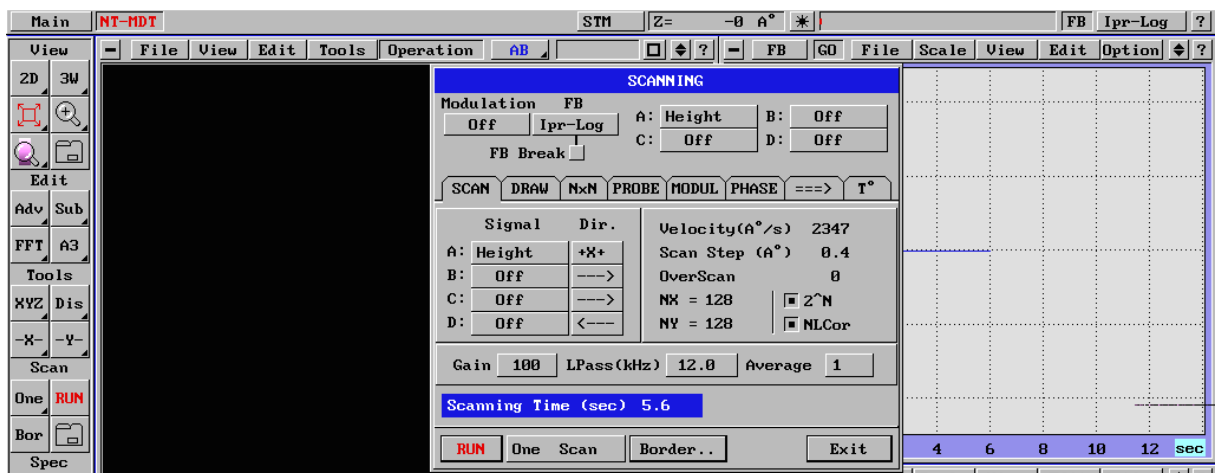

Fig. 65
- Velocity = max (Fig. 65)
- Step (A) - 0.2 - 0.5 (Fig. 65)
- NX xNY - 128 x 128 (Fig. 65)
- NL Corr - on (Fig. 65)
- A: Scan dir - +X+ (Fig. 65)
- Gain = 100 (Fig. 65)
- Lpass(kHz) = 12 (Fig. 65)
- Average = 1 (Fig. 65)